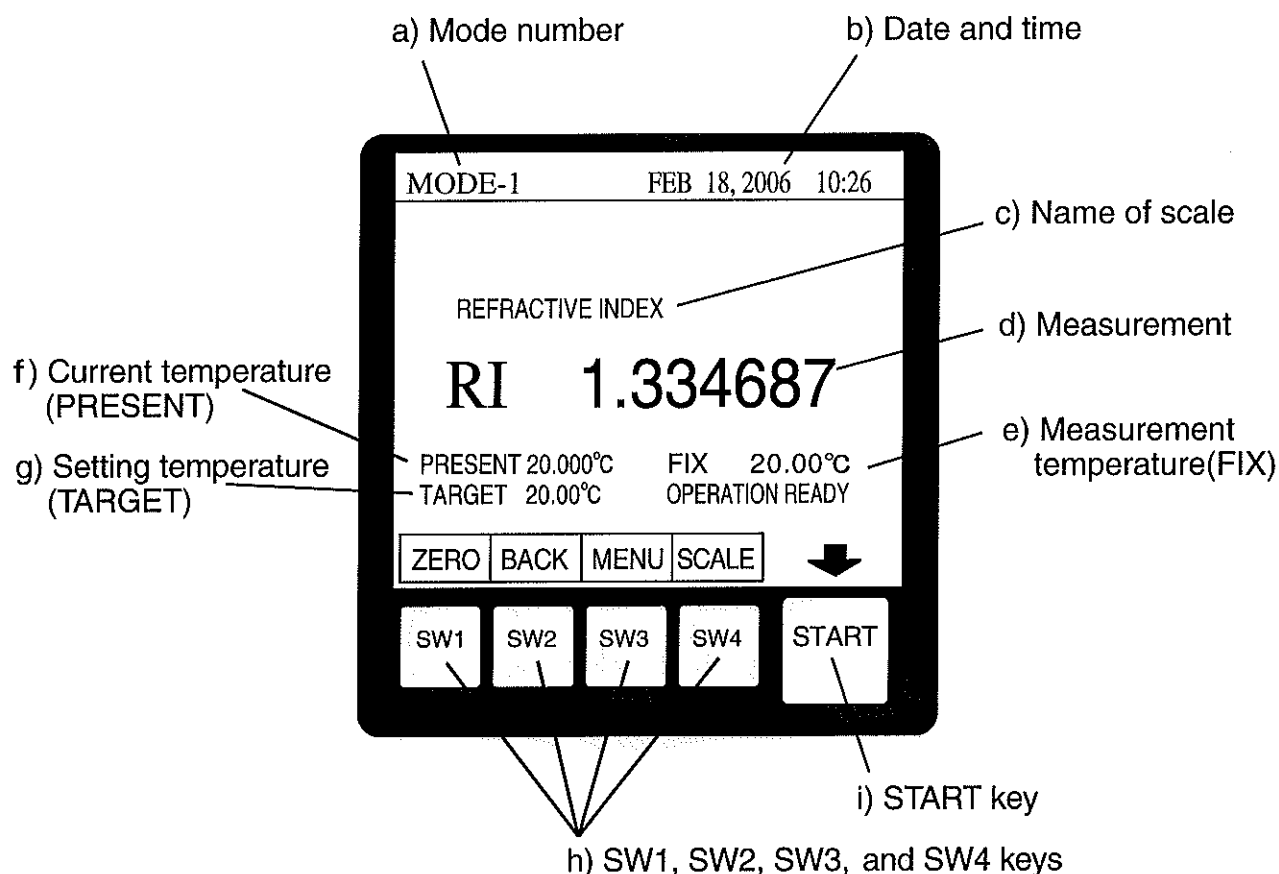

Fig.4-6
(2)-3 For standard refractive index(RI) display (Fig.4-6)
The measurement display screen of the RX-007 α is set in one of the two display modes of the "Standard Brix display (Fig. 4-4)," "Top and bottom limit bar or user scale display (Fig. 4-5)," or "Standard refractive index display (Fig. 4-6)."